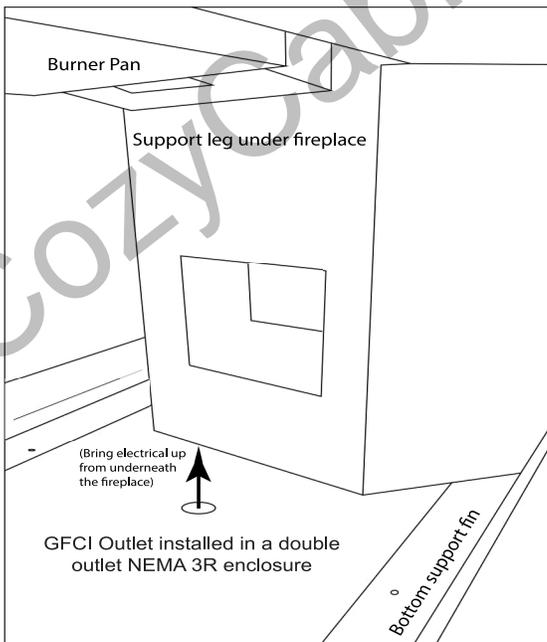
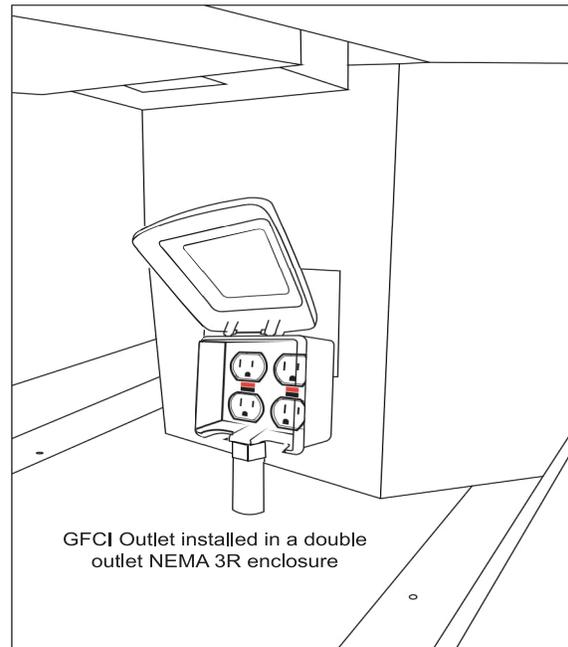

Figure 15 - GFCI box location under fireplace
Figure 16 - Show GFCI box mounted in fireplace
Figure 16 shows GFCI gang box installed.
Step 2: Find mounting location for the GFCI gang box. Figure 15 shows flat area underneath burner pan. Mount box underneath the burner pan, below the square (cutout) hole area. Figure 16 shows the GFCI outlet double gang junction box with a weatherproof cover mounted underneath the fireplace.